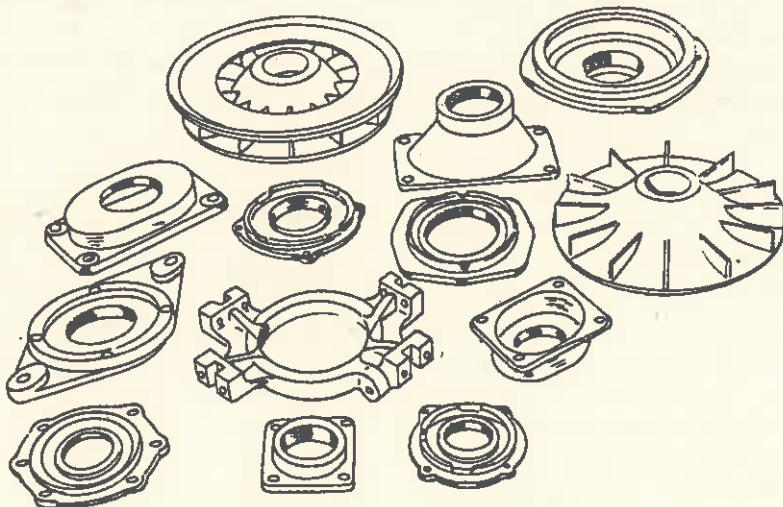

Fig. 6.13. Production Family
From this information the profile and parameters of the component family (Fig. 6.13) are constructed against which the acceptance or non-acceptance of new components into the *family* can be used.
- N.B.** In Fig. 6.13, most components have different *shapes* and *functions*; but all of them require *internal boring*, *face milling*, *hole drilling* and so on. Therefore, it can be concluded that the components are *similar*. The set of similar components can be called a *production family*. From this, process planning work can be facilitated.